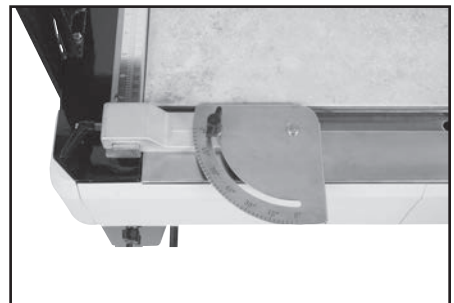

FIGURE 11
4. Adjust the guides as needed so that the tile rests against the measuring guide and squaring tool (Fig 11).